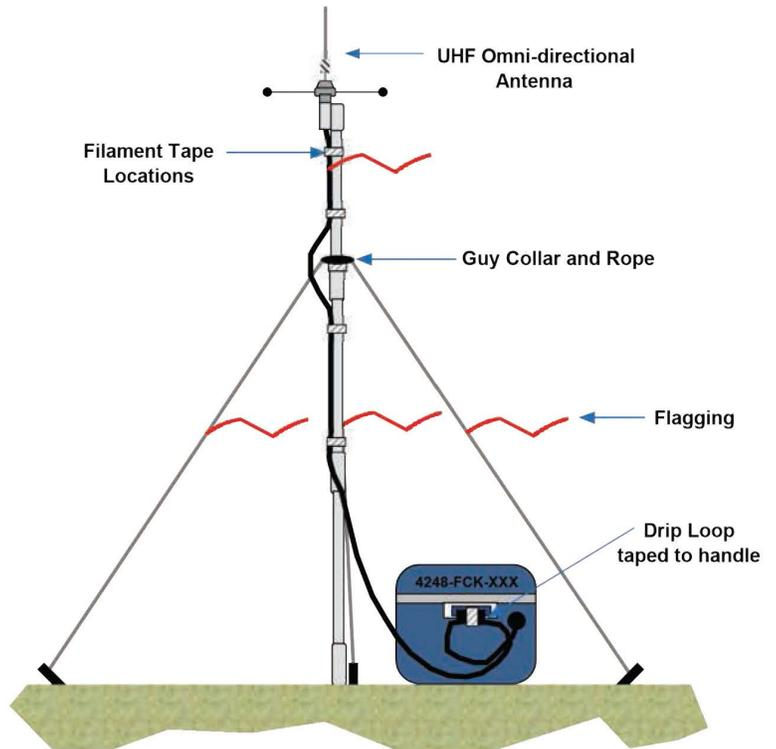

Figure 2:
2. **Antenna Installation** (See Figure 2)
3. **Coaxial Cable** (See Figure 2)